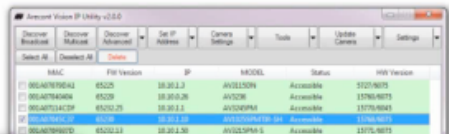

Figure 1: Double click via AV IP Utility
1. To control the remote focus via the web interface, double click the camera within the AV IP Utility (Figure 1) or open your preferred web browser and type the camera's IP address (Figure 2).